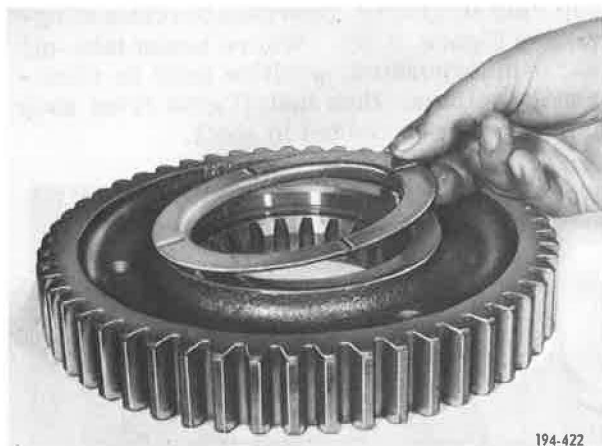

Figure 5-92 . Installing Gear Thrust Washer on Gear
6. Apply a light coat of grease to thrust surface of second and first speed gear. Then place thrust washer on front face of gear hub. See Figure 5-92.